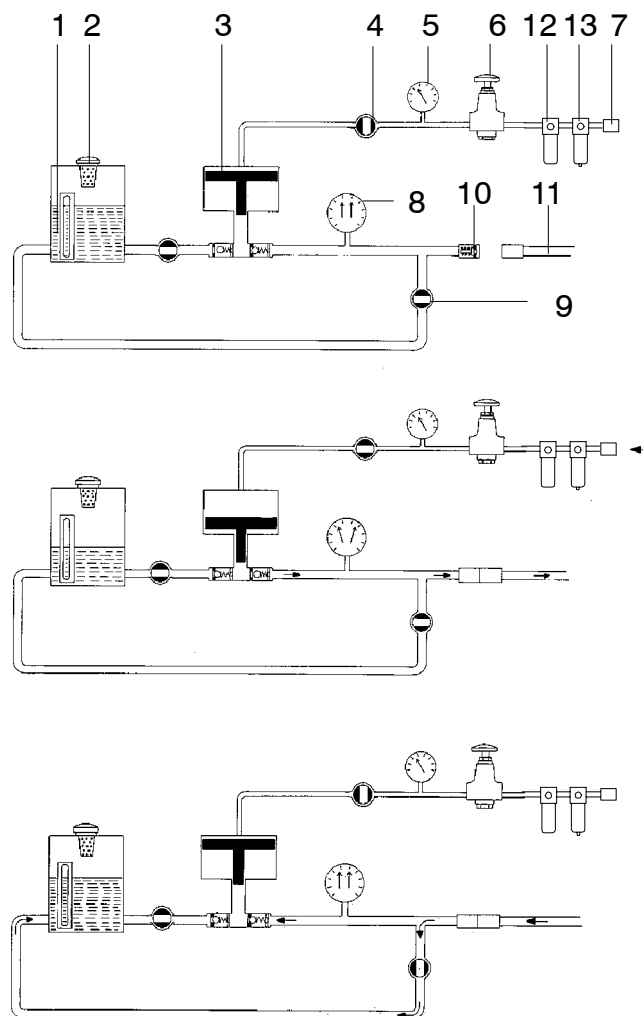

Fig. 2.4 – 1 Diagram pneumatically driven hydraulic pump unit
During filling of the HP pump container, it is recommended to connect the set according to Fig. 2.4 – 2 . Before filling, open the release valve (9) and empty the jack (12) by pressing piston and cylinder simultaneously. Next, the container can be filled through the filling plug (2). (For specification of the hydraulic oil, see chapter 1.2.).
- 1** Close valves (4) and (9), see fig 2.4 – 1 and fig. 2.4 – 2 .
- 2** Connect at (10) the HP hose (11) to the hydraulic jacks (12).
- 3** Connect the service air at (7).
- 4** After adjusting the "air pressure" at the value of the required oil pressure, start the pump by opening air valve (4). The hydraulic system will be pressurized, visible on manometer (8). At a value of approx. 10% below the adjusted value, the pump will stop.
- 5** Slowly turn the spindle of the reducing valve (6) counter clockwise, by which the hydraulic oil pressure will increase.
- 6** Continue pumping until the reading on the manometer of the hydraulic system (8) shows the required oil pressure. The manometer in the air system will now show a pressure of circa 10 % higher.